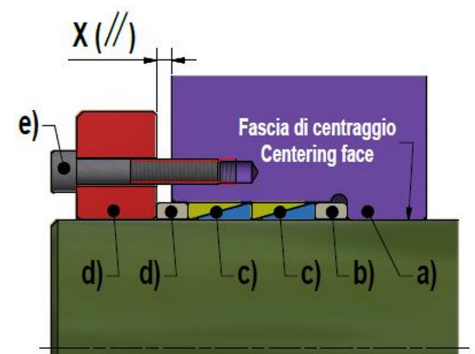
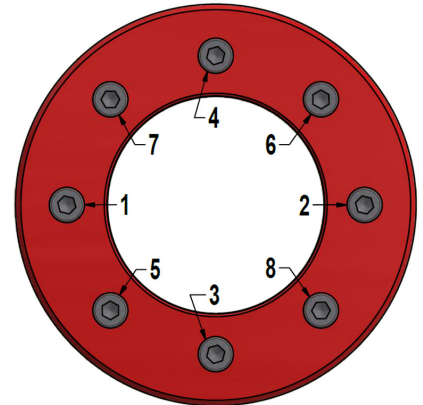

Fig. 4
Fig. 5
The hub must be provided with a centering face to allow good concentricity of the connection, since the Locking Element is not self-centering (fig. 4).
2. Install the parts in the following sequence (fig. 4).
3. Tighten the screws by hand in a crosswise pattern (fig. 5) until fitting clearances with shaft and hub bore are bridged and connected components are slightly locked, while making sure that hub is aligned as required using a dial indicator. The distance (X) between thrust ring and hub or shaft end **shall never be zero and be uniform** around the circumference (fig. 4). **Better centering of hub from the beginning of installation is essential for better centering when installation is completed.**
4. Use a torque wrench set approx. 5% higher than the design tightening torque. **Progressively tighten the screws in a crosswise pattern (fig. 5), using approx. ¼ turns for several passes until ¼ turns can no longer be achieved.**
7. **Check the distance (X) (fig. 4): the thrust ring must never contact the face of the hub or shaft end. Remaining distance shall be uniform** around the circumference.